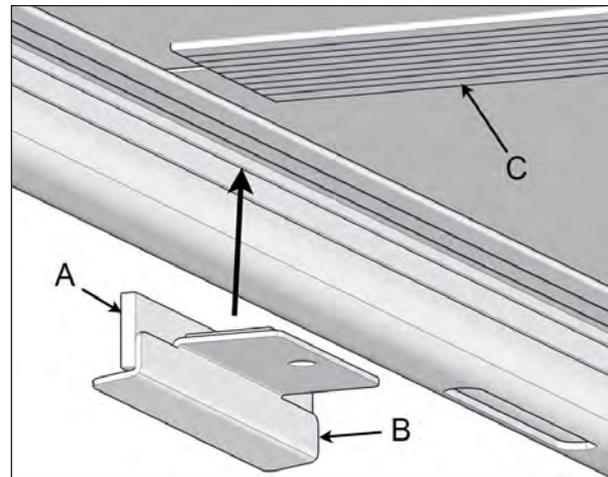

FIGURE 112: WIPER LOCATION
3. Under the cover, locate an I-beam and orientate the wide flap of the wiper outwards of the cover see Figure 112.